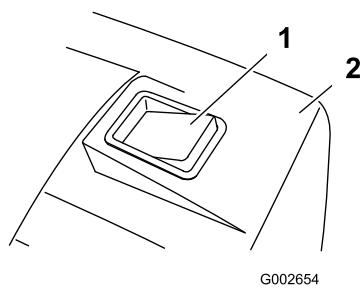

Figure 22
- 4. Mow with the grass box attached until the grass box indicator shows that the grass box is full (Figure 22).